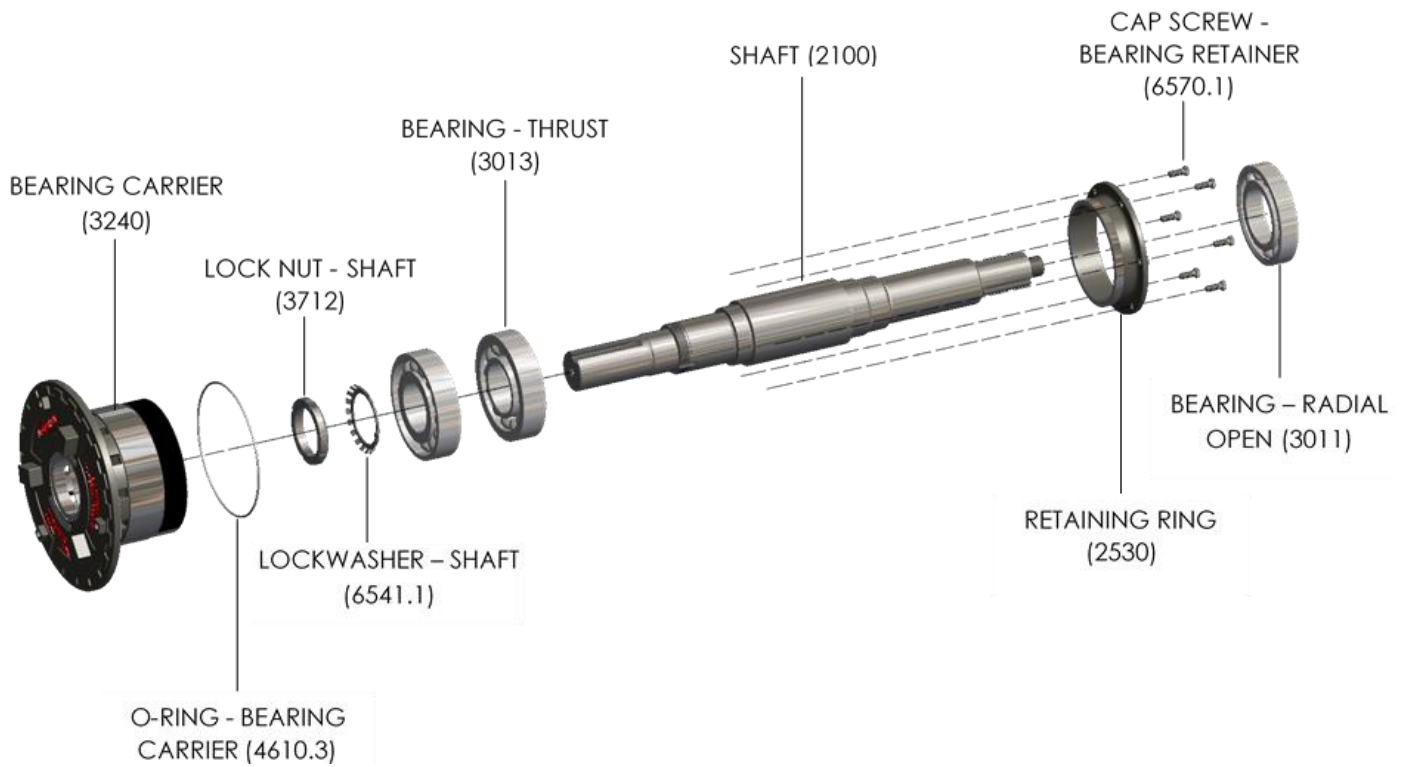

Figure 44: Rotor Assembly, Oil
4. Lubricate the bearing carrier [3240] O-ring and threads, and bearing housing [3200] internal bores with oil. The shaft, bearings, and bearing carrier, *rotor assembly*, can now be installed into the bearing housing. See Figures 44 & 45